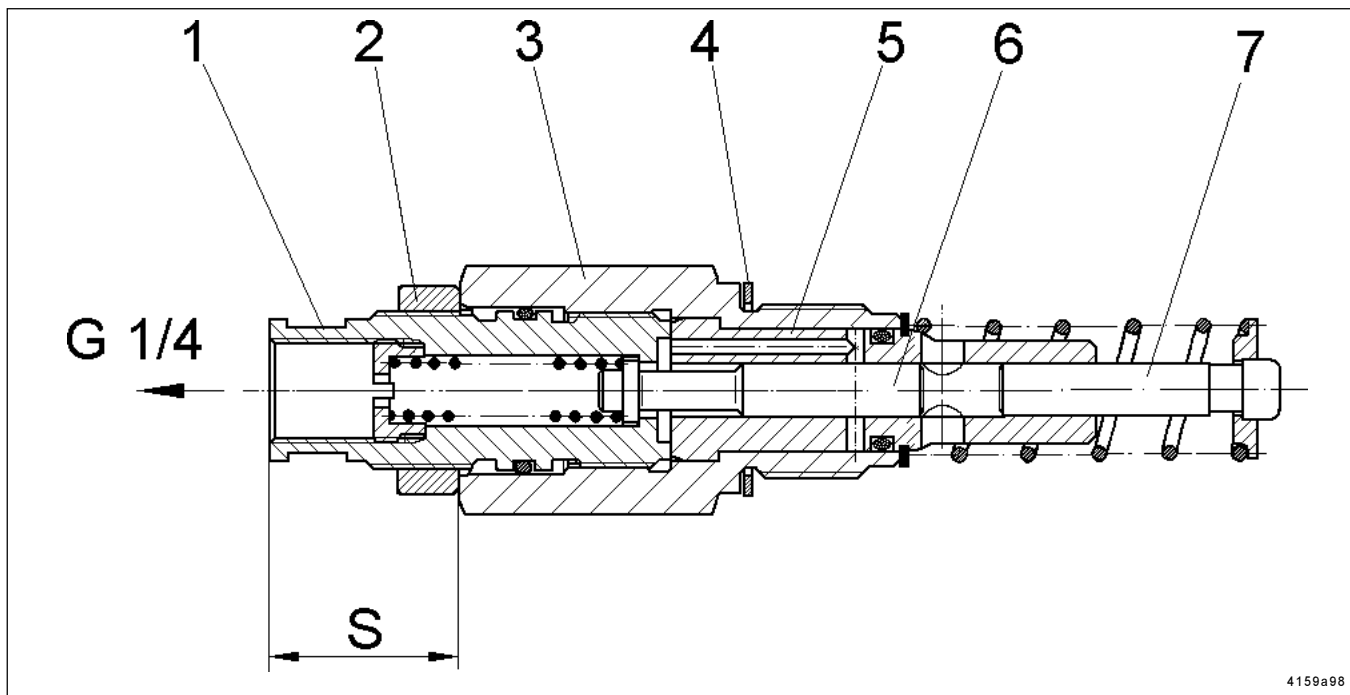
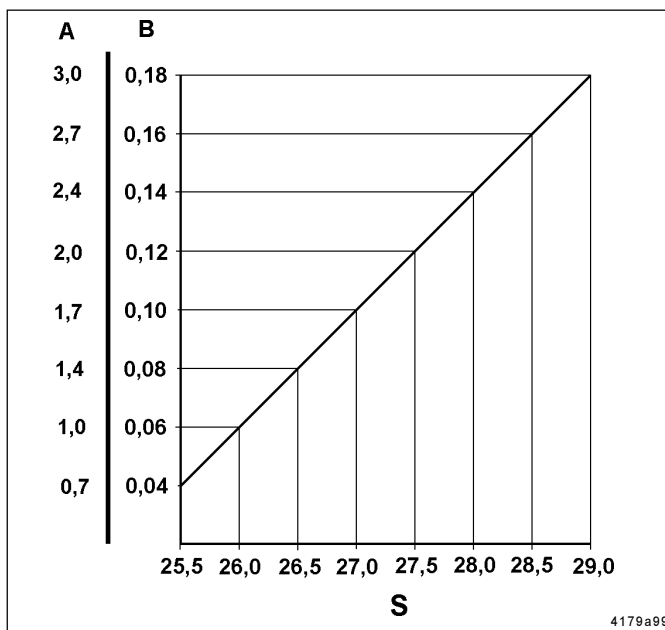

Fig. 10 - Sectional view: adjustable element
Fig. 11- Diagram for lubricant output
- Loosen counter nut (2, Fig. 10) while holding in position pump element body (3) by means of a second wrench.
- Change the position of the adjusting spindle (1) by means of a wrench.
- The dimension „S“ (see Fig. 10) for the desired lubricant output can be ascertained by using the delivery diagram shown in Fig. 11.
- Unscrew the adjusting spindle (1, Fig 10) from the pump element body (3) until „S“ is approx. 30 mm.
- Screw counter nut (2) onto stop collar of the adjusting spindle (1)
- Screw adjusting spindle (1) with counter nut (2) into pump element body (3) until stop.
- Dimension „S“ must be adjusted to the desired value in accordance with the delivery diagram (Fig. 11).